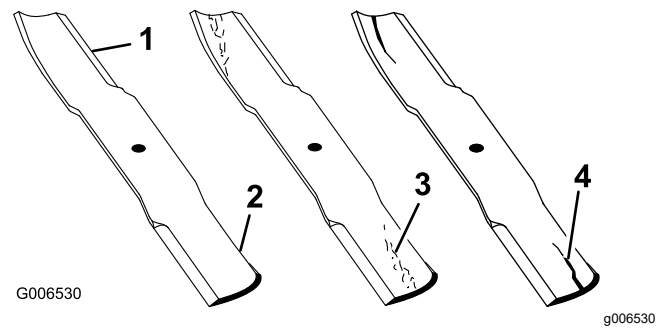

Figure 79
1. Inspect the cutting edges (Figure 79).
4. If you notice any cracks, wear, or a slot forming in this area, immediately install a new blade (Figure 79).